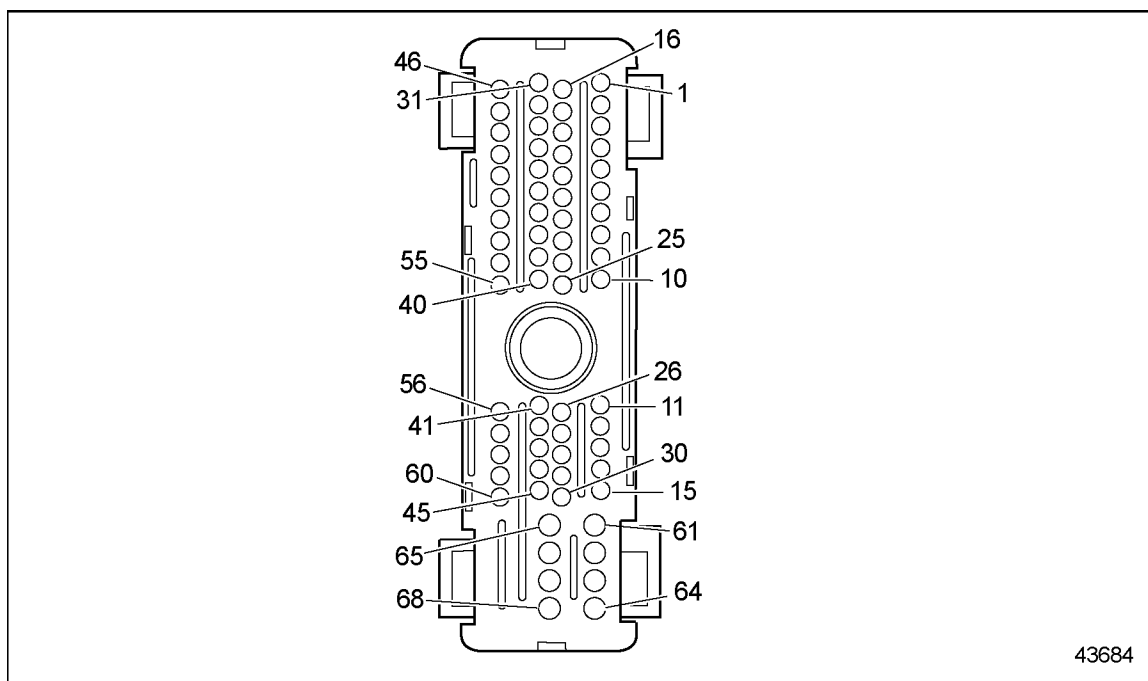

Figure 36-3 ECM/ECU Engine Harness and Vehicle Interface Harness Connector
3. Disconnect the Engine Harness connector at the ECM/ECU. See Figure 36-3.
See Figure 36-3.
3. Measure resistance between sockets E-39 of the Engine Harness connector and V-15 on the Vehicle Interface Harness connector. See Figure 36-3